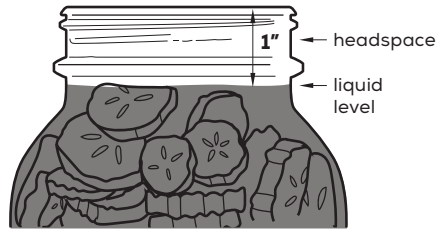

Figure 1.
2. Fill an 8-16 oz. clean canning jar to the level shown in Figure 1. **DO NOT** exceed the level shown, as there needs to be at least 1-inch of headspace at the top.